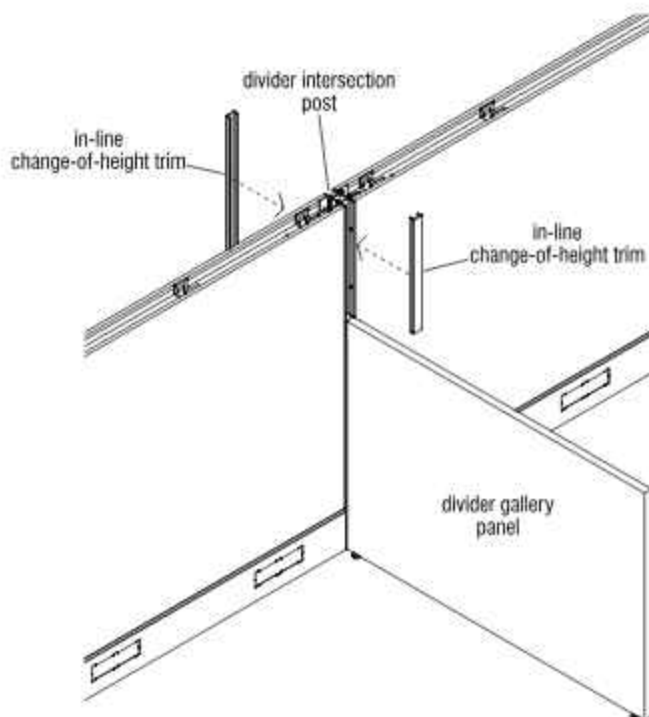

Figure 1
1. The trim has no top or bottom, so simply snap the correct length in-line vertical trim into the divider post as illustrated (Figure 1).
**Note:** Both sides of a divider gallery panel intersection may require trim. The height of each side could be different. A divider gallery panel could be used on one side but not the other. In this case, the back-side will require the in-line trim as well (Figure 1).